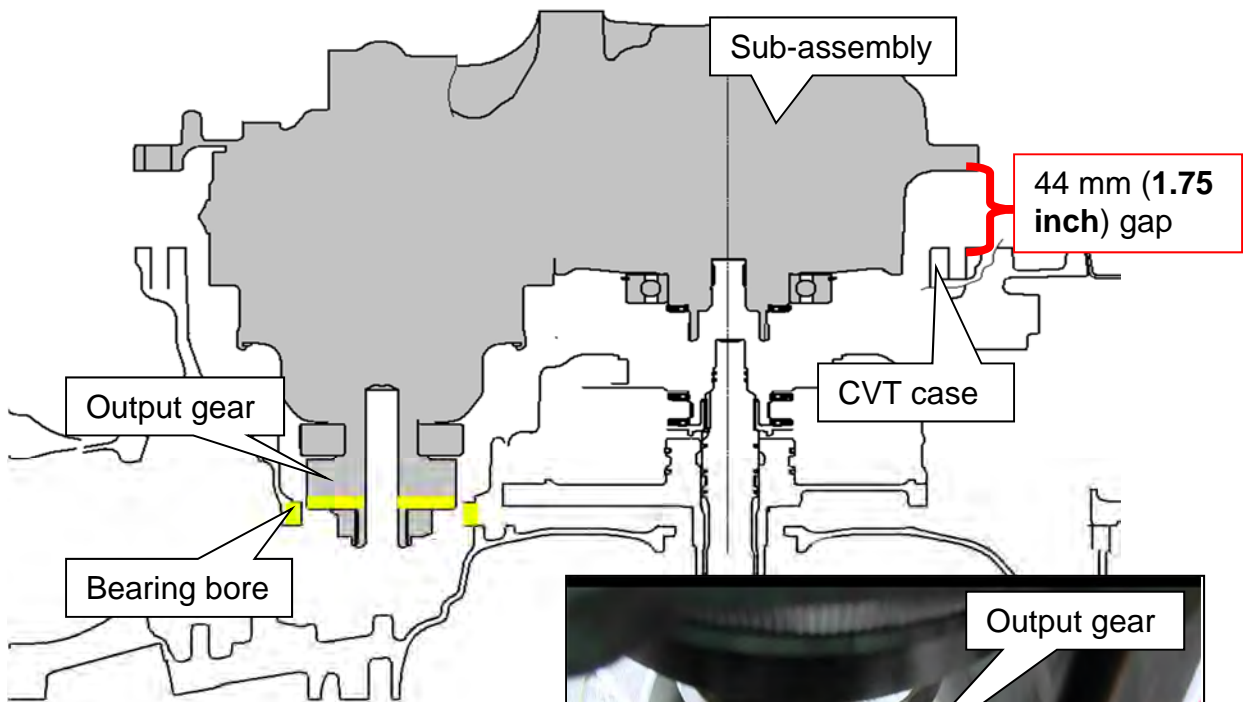

Figure 97
- If the sub-assembly will not lower farther than 44 mm (1.75 inches) the output gear did not clear the bearing bore (Figure 97).